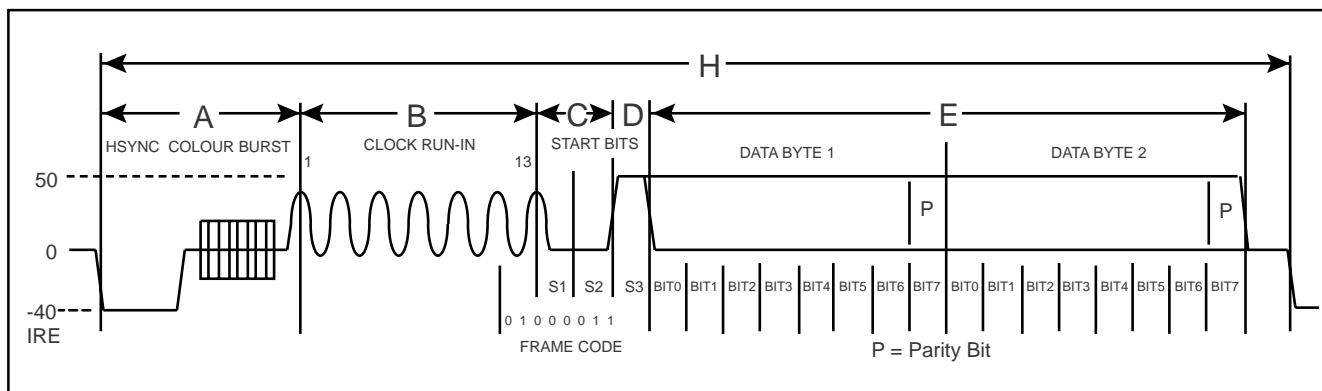

Fig.7 Closed Capation format
Two bytes of data are coded on the line 21 of each field, see figure 7. In the NTSC Closed Caption service, the default state is to code on line 21 of field one only. An additional service can also be provided using line 21 (284) of the second field. The data is coded as NRZ with odd parity, after a clock run-in and framing code. The clock run-in frequency = 0.5034965MHz which is related to the nominal line period,  $D = H / 32$ .